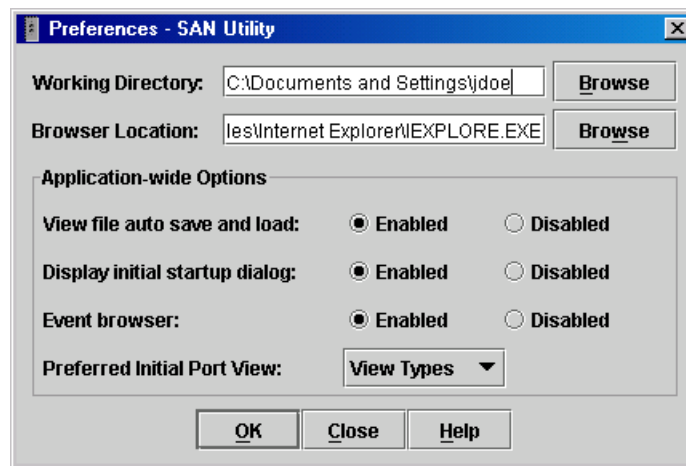

Figure 3-9. Preferences Window – SAN Utility
- Enable (default) or disable the Event Browser. Refer to "Displaying the Event Browser" on page 3-31. If the Event Browser is enabled using the Preferences window as shown in Figure 3-9, the next time SAN Utility is started, all events will be displayed. If the Event Browser is disabled when SAN Utility is started and later enabled, only those events from the time the Event Browser was enabled and forward will be displayed.